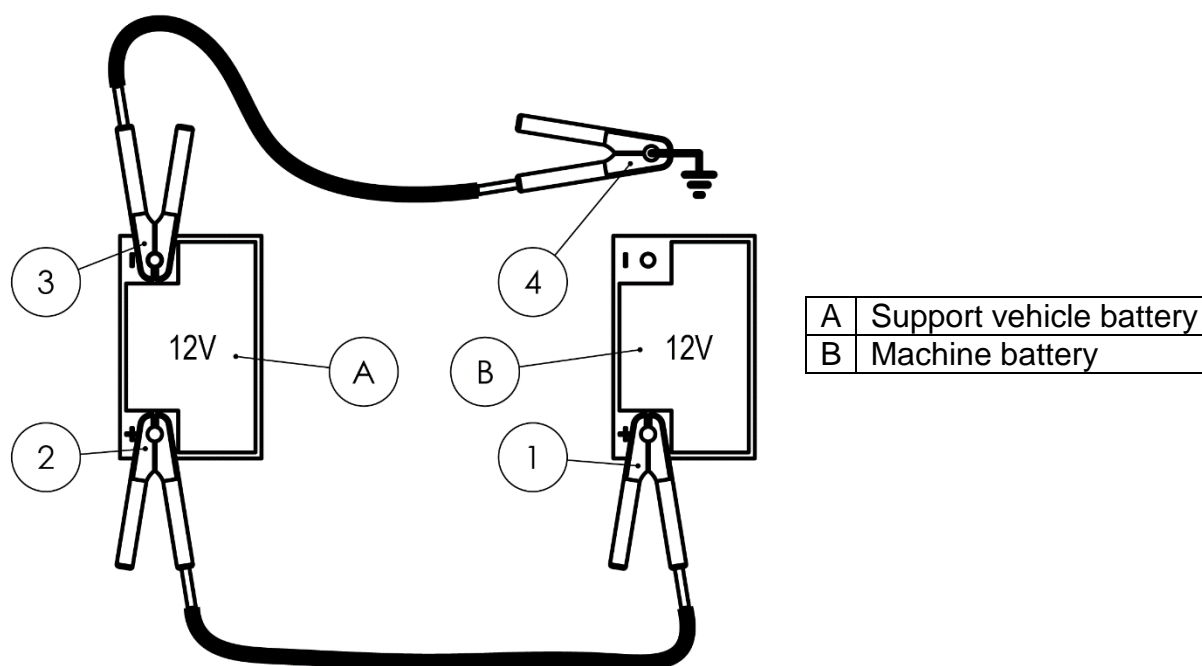

Figure 19
4. Referring to Figure 19, connect in the sequence of 1 – 2 – 3 – 4 as shown and as follows: Connect one end of the red jump lead to the machine battery positive (+) terminal.